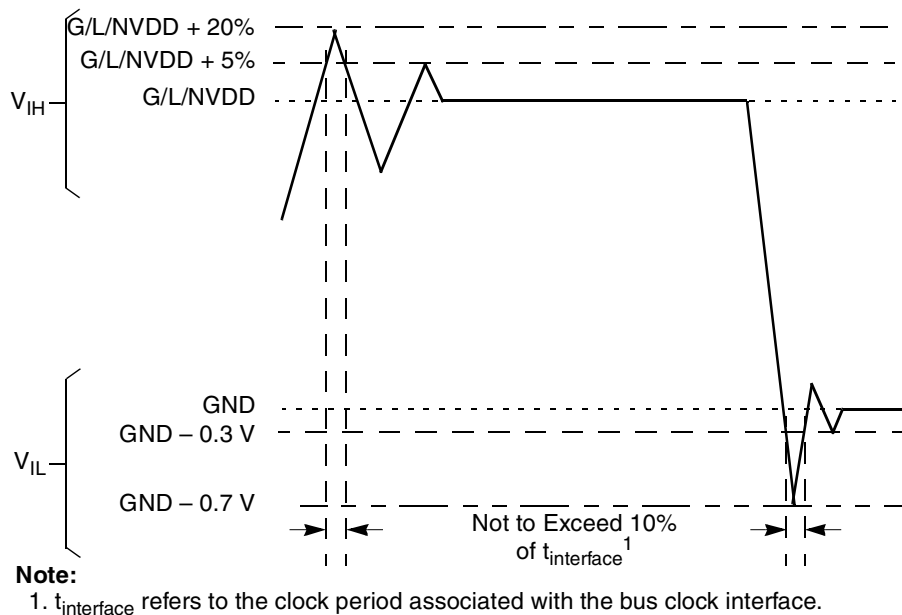

Figure 2. Overshoot/Undershoot Voltage for GVDD/NVDD/LVDD
- (M,N,L)V_{IN} and MVREF may overshoot/undershoot to a voltage and for a maximum duration as shown in Figure 2.
Figure 2 shows the undershoot and overshoot voltages at the interfaces of the MPC8314E.